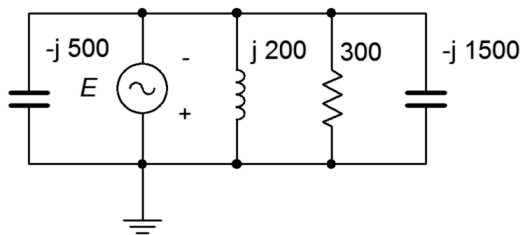

Figure 3.9
14. Determine all of the branch currents for the circuit shown in Figure 3.9 assuming E is a 1 volt RMS sine.